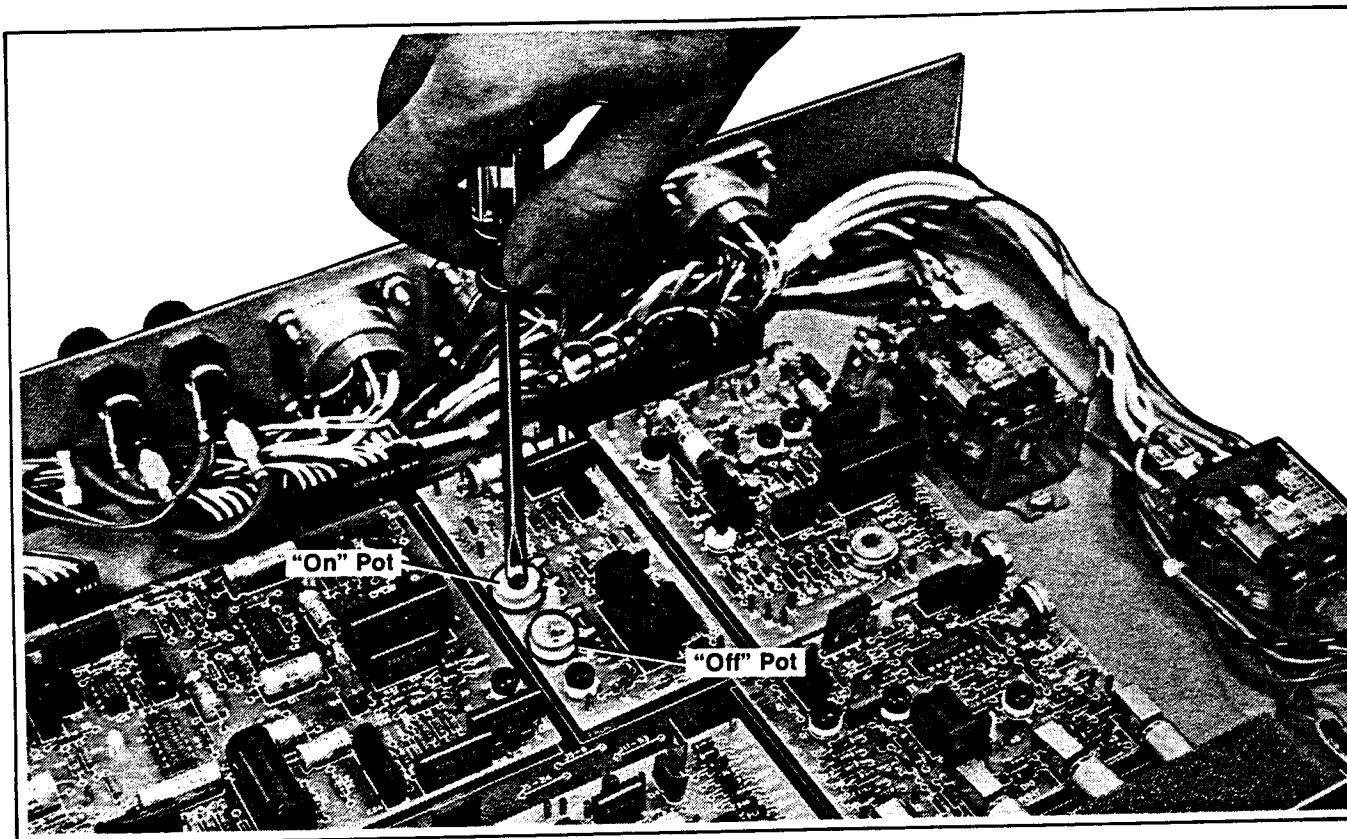

Figure 3-7. "On-Off Crank" Pot Adjustment
4. Adjust ON TIME pot on cyclic cranking board as needed. See Figure 3-7.
5. Adjust OFF TIME pot on cycle cranking board as necessary. See Figure 3-7.